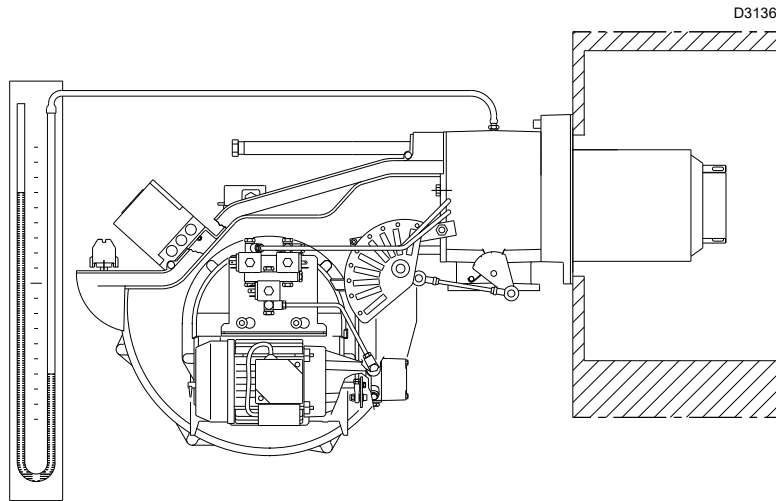

Fig. 33
- Fit a U-type pressure gauge or a differential pressure gauge (Fig. 33), with socket (+) on the gas pressure of the pipe coupling and (-) in the combustion chamber.
The arrival of gas to the sleeve is indicated by the U-type pressure gauge (Fig. 33).
A rough indication can be obtained from Tab. K on page 27, just read the gas pressure on the "U" pressure gauge (see Fig. 33 on page 32) and follow the indications.